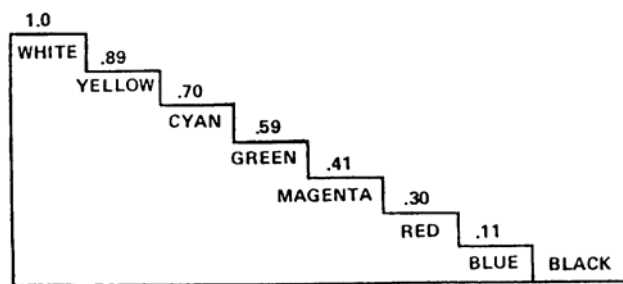

Figure S-13. Luminance Stairstep
(1) Therefore, when combining green with red we have yellow with a brightness value of 89 percent. Cyan has a brightness value of 70 percent. The third complementary color, magenta, has a brightness value of 41 percent. It obtains 30 percent from red and 11 percent from blue. Figure S-13 shows the order of brightness, which is known as the luminance stairstep.